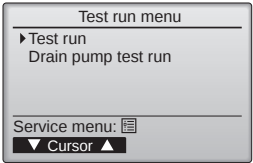

Fig. 7-4
- ④ Select "Test run" with the  or  button, and press the  button. (Fig. 7-4)